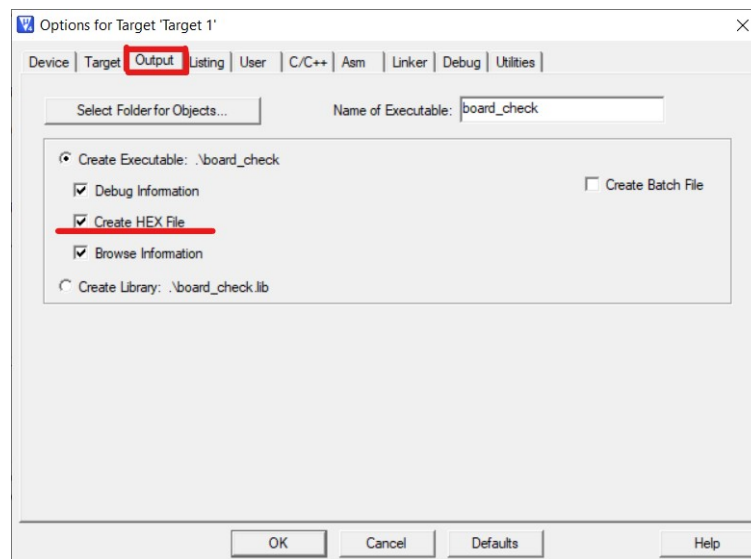

Figure 1.18: Select option Create Hex File
3. In *Output* tab, tick **Create Hex File** to create the binary to be loaded (Figure 1.18).